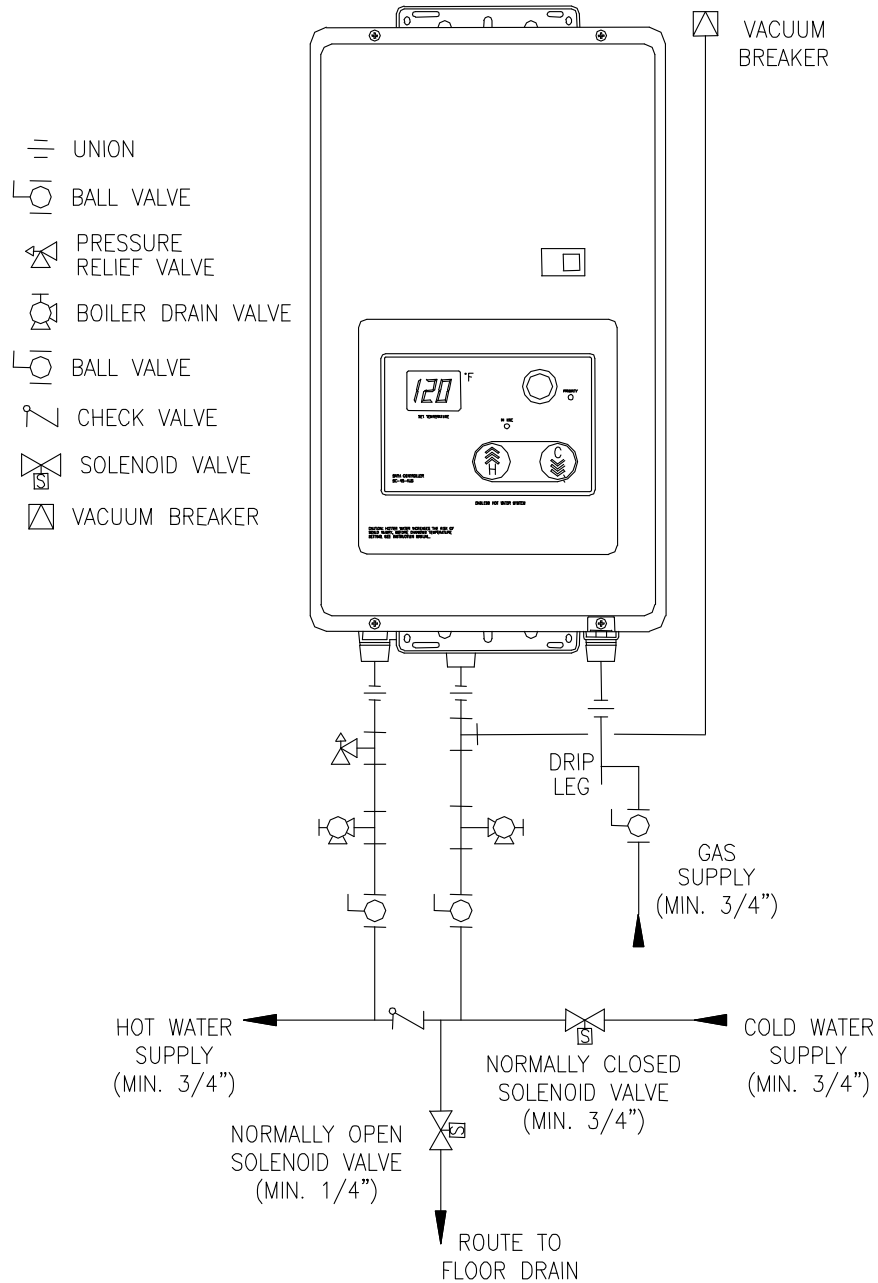

Figure 4
4. In cold climates where piping can freeze during an extended power failure, drain solenoid valves should be installed on the cold and hot water supply lines to allow water to drain from the water heater when power is interrupted. Refer to the piping diagram (fig. 4) "Recommended Piping for Power Failure Freeze Protection" in Section V and contact your Bradford White dealer if assistance is needed.